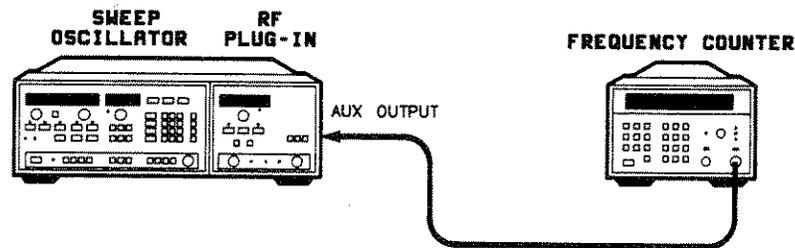

Figure 5-8. Preliminary Frequency Accuracy Test Setup
1. Connect the equipment as shown in figure 5-8 with the frequency counter connected to the plug-in rear panel AUX OUTPUT connector.